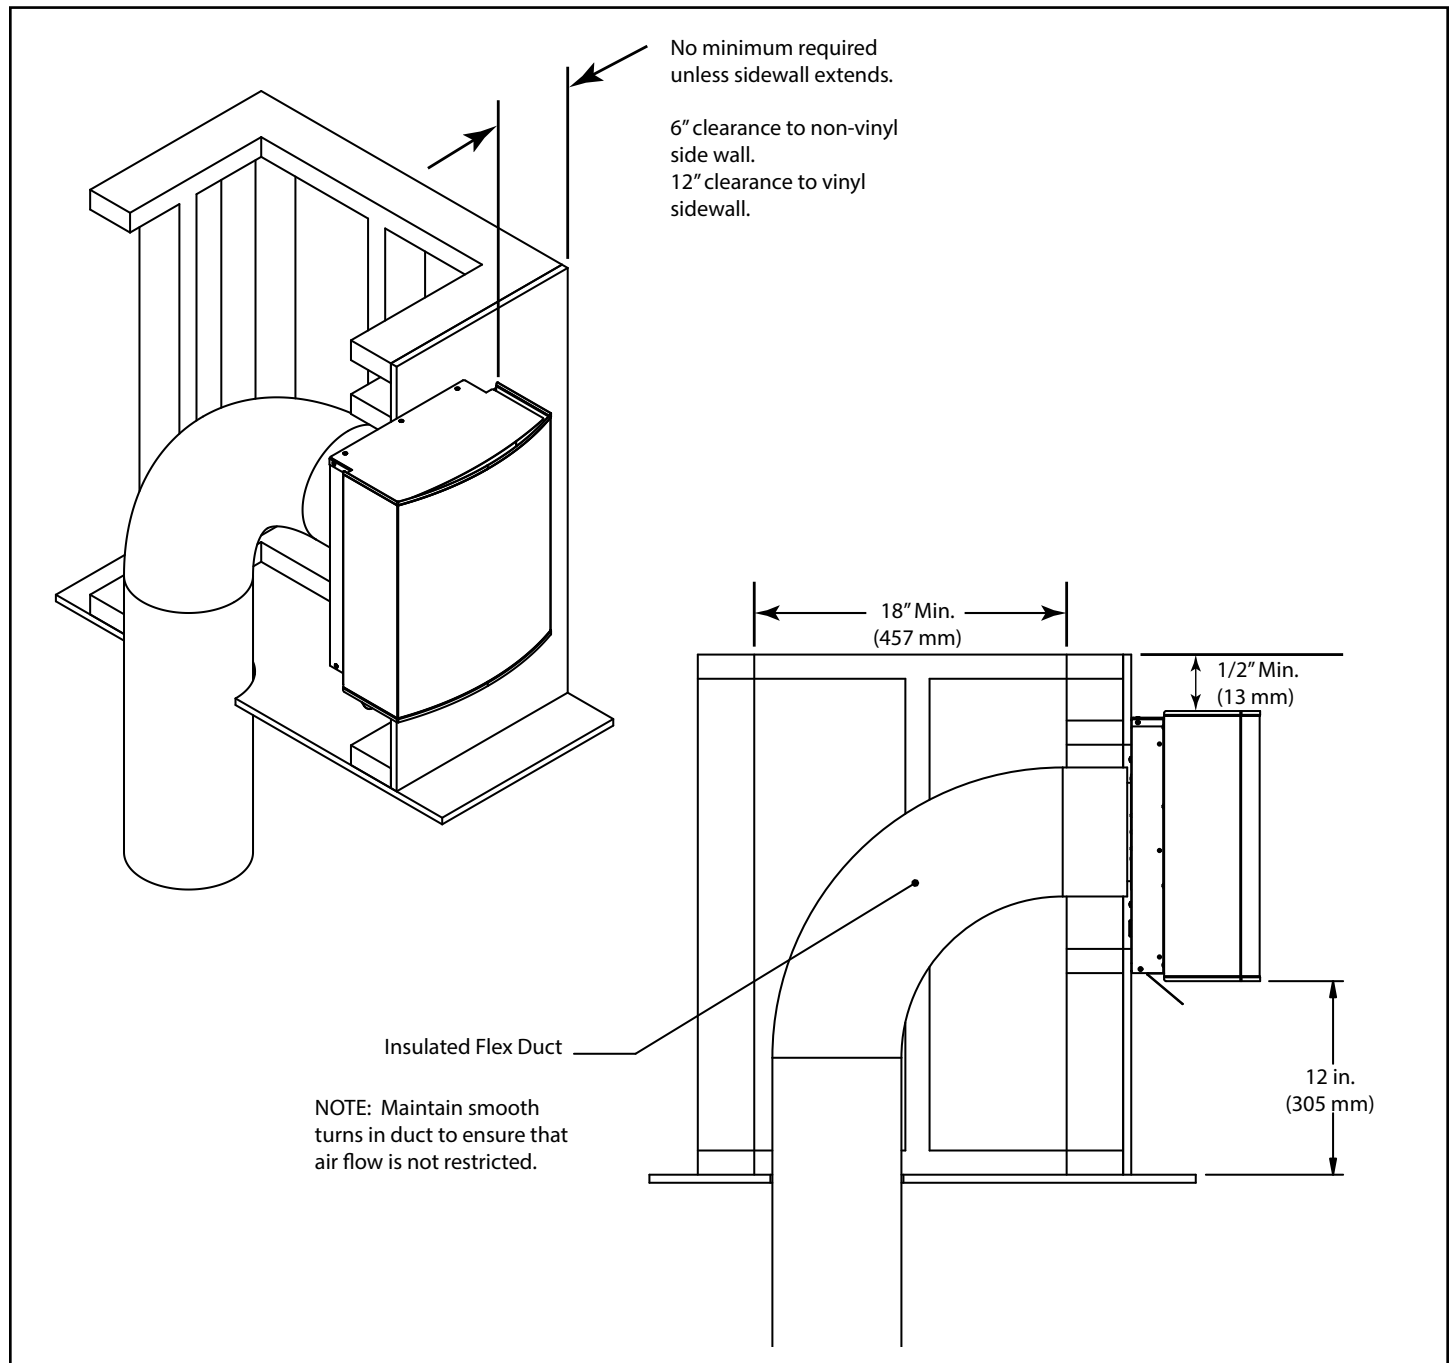

Figure 2.3 Flat Roof Enclosure
1. If the HEAT-OUT-GAS is going to terminate on a flat roof, an enclosure similar to the one shown in Figure 2.3 will need to be constructed.